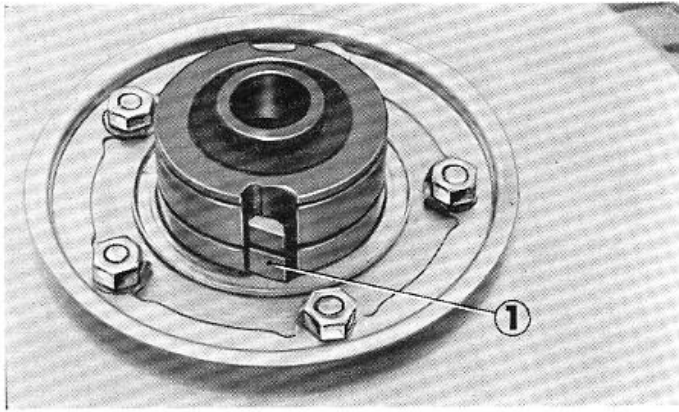

Fig. 4-18 ① Ratchet pawl
② Rear wheel axle complete
4. After removing the free wheel spring A, the ratchet pawl can be disassembled. (Fig. 4-18)